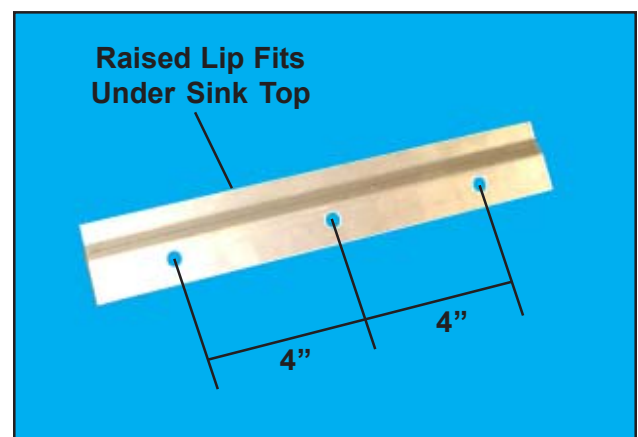

Figure 5. Top bracket
5. Hold the top bracket in place, make sure it is level, and mark the centers of the three mounting holes on the wall (Figure 5).